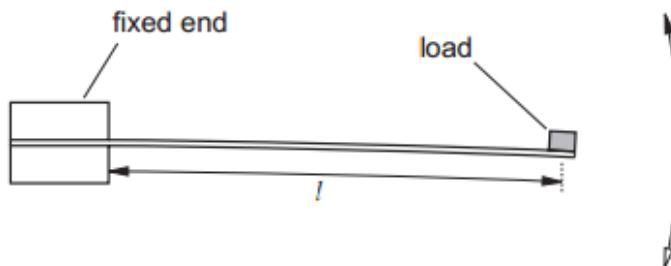

Fig. 1.1
- 1 A student wishes to determine the Young modulus E of wood from the period of oscillation of a loaded wooden rule, as shown in Fig. 1.1.